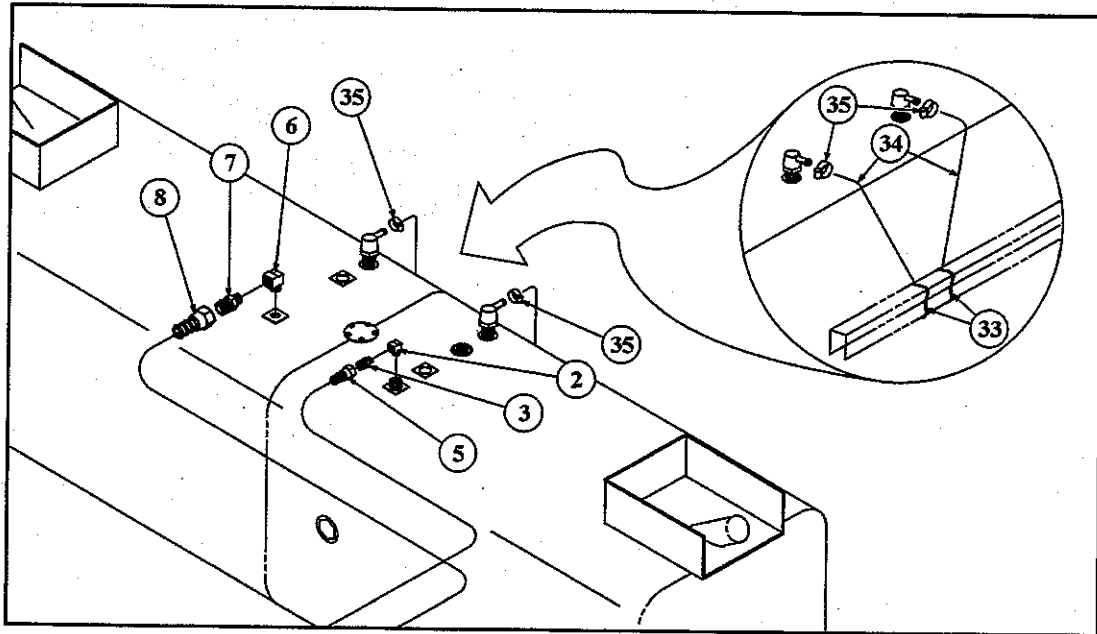

Figure 5—Fuel Tank Sensor Location
7. Move to the front of the fuel tank to remove nylon cable tie (33) from the vent lines (34). (See Figure 5—Fuel Tank Sensor Location.)
8. Remove hose clamps (35) from the fuel tank vents. (See Figure 5—Fuel Tank Sensor Location.)
9. Lower fuel tank enough to see fittings at panel (18).
10. Disconnect fuel lines (5) and (8). (See Figure 5—Fuel Tank Sensor Location.)